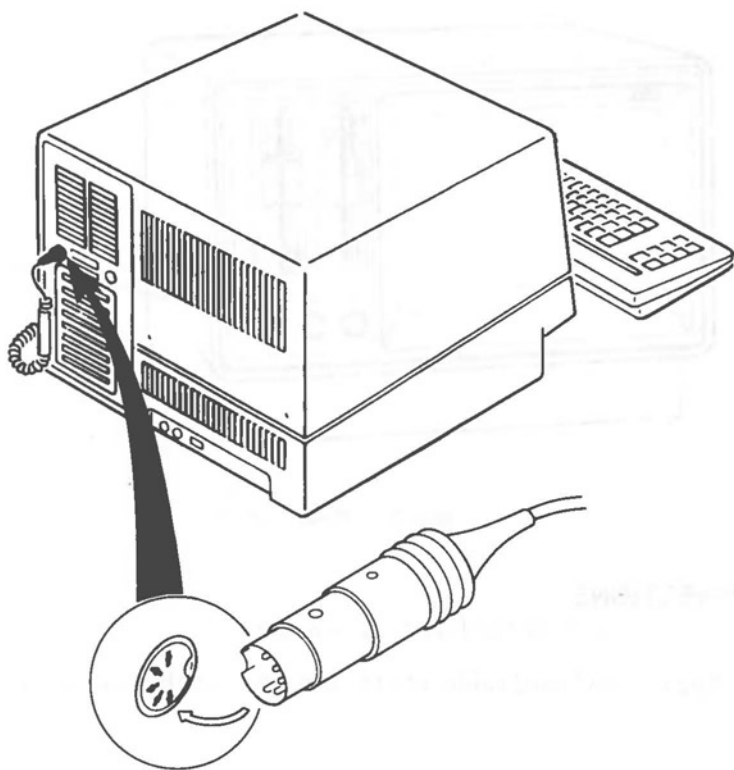

Figure 2-3 Keyboard Cable Connection
1. Plug the keyboard cable into the computer at the rear (see Figure 2-3).